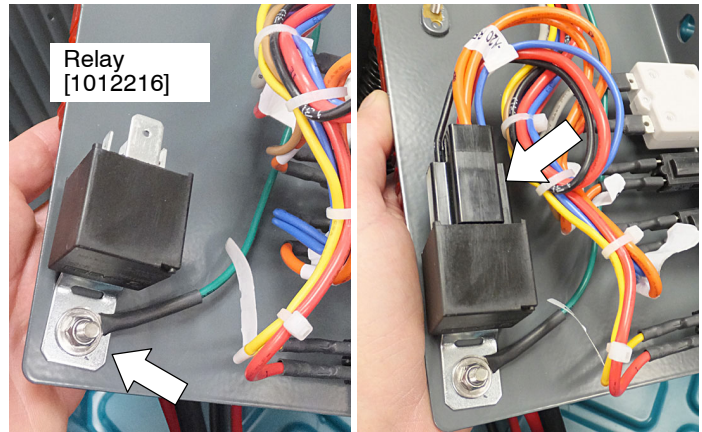

Fig. 15
4. Install the ec-H2O relay to the circuit breaker panel as shown and plug the harness relay connector into the relay (Figure 15).